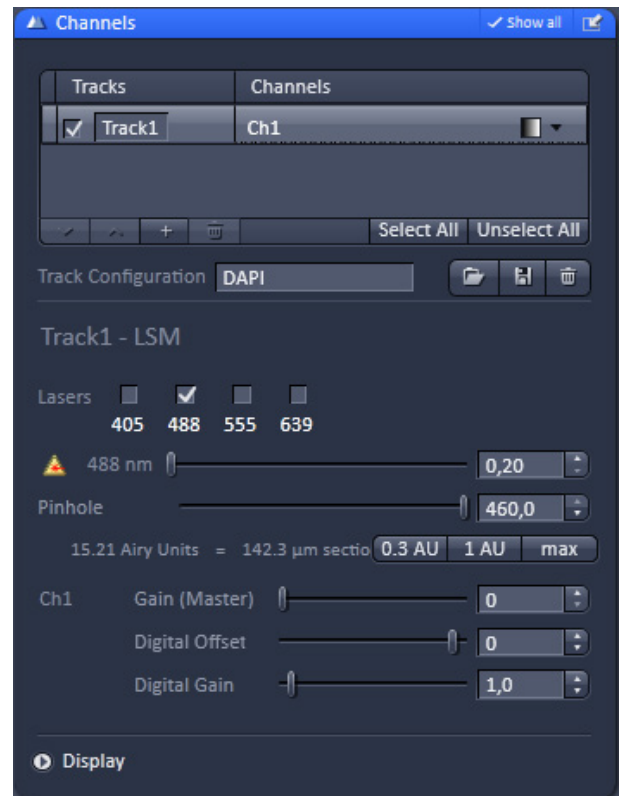

Fig. 145 Channels tool
- On the **Channels** tool in the LSM **Online Acquisition** tool group select the pinhole diameter so as to have the best possible image contrast (see Fig. 145).